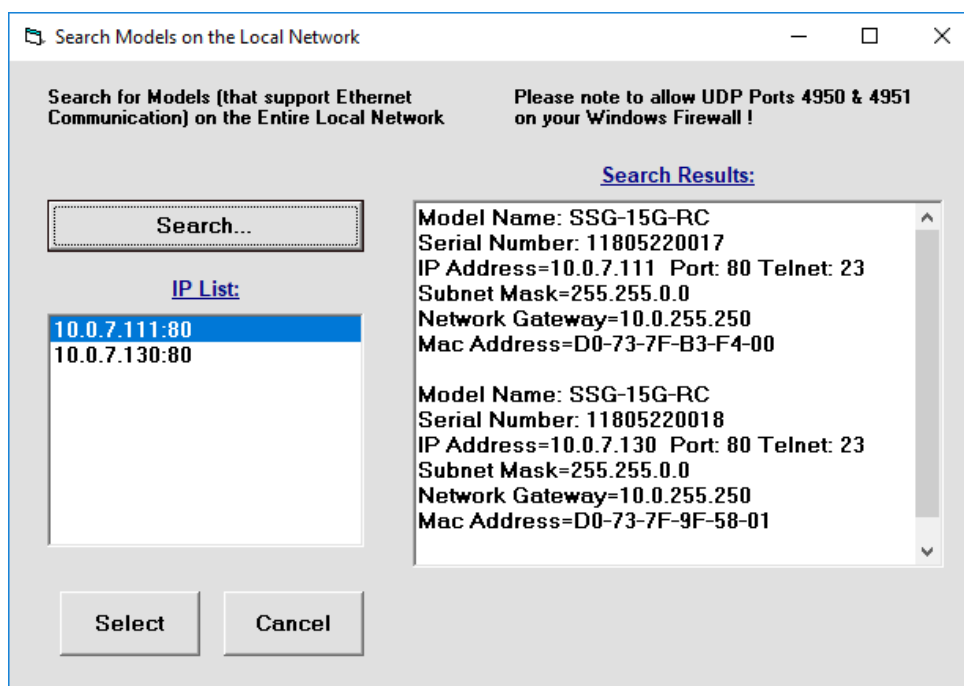

Figure 3.2.2: Ethernet IP search window
3.2.2 Clicking on the search icon opens the IP search window (see **Fig 3.2.2**), showing a list of available generator IP addresses and their HTTP ports on the left side of the screen, with full details of each unit on the right. Mark the IP address you wish to use and click select. The search window will close and the IP address will be entered in the IP address field of the initial screen automatically.